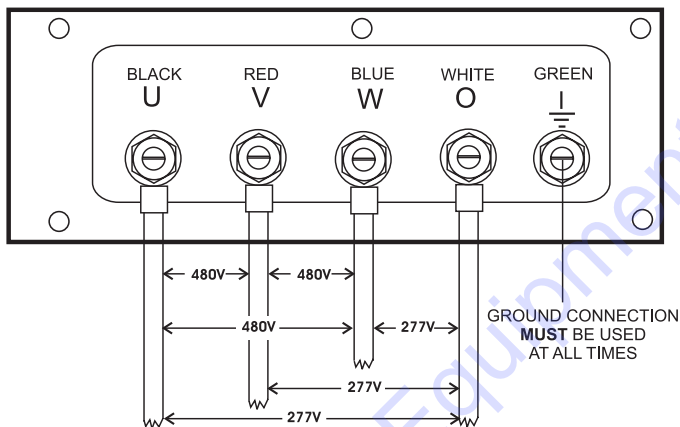

Figure 25. Output Terminal Lugs 480/277V Three Phase Connections
2. Connect the load wires to the **Output Terminal Lugs** as shown in Figure 25.